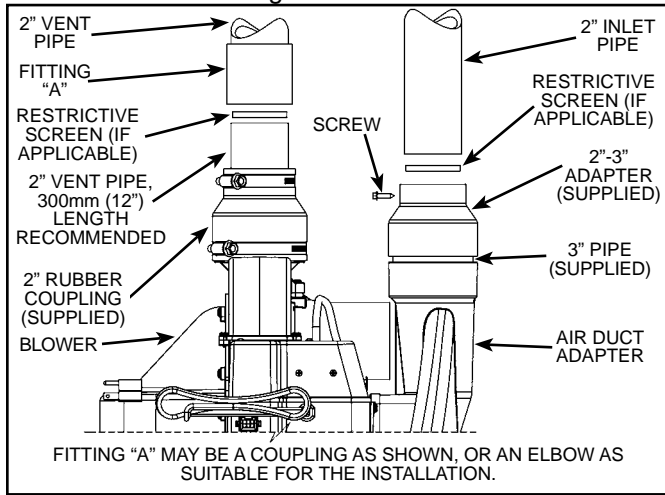
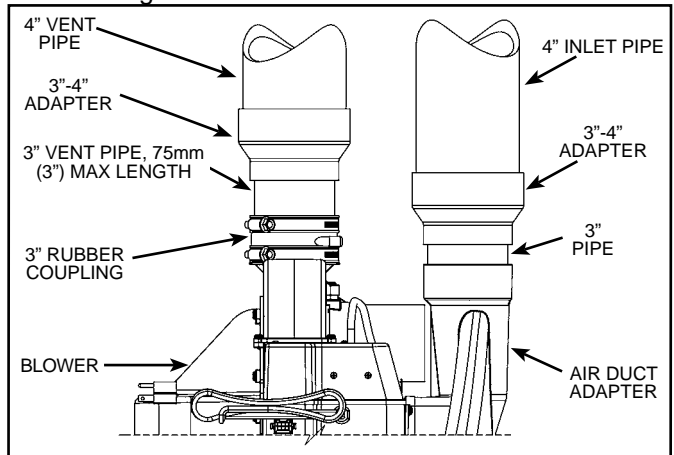

Figure 38.
Figure 41.
**Note:** If a vent screen in the air intake vent system is located at the blower, this joint should not be cemented but secured with a screw to allow servicing (see Figure 38 through Figure 41).
4. Make sure that the plastic tubing is still attached from the air pressure switch to the port on the blower motor housing. Make sure the plastic tubing is not folded anywhere between the pressure switch and the blower motor housing (see Figure 38 through Figure 41).
**Important:** These connections must be properly seated and tightened to prevent the leakage of flue gases into the area. See Figure 38 through Figure 41.
Figure 38 shows the configuration for heaters direct connected to 2" venting.
Figure 41 shows the configuration for heaters connected to 4" venting.
The restrictive screen (see Figure 37) and the air intake piping should be secured in place with a screw. To prevent damage to the equipment, first position the restrictive screen in place, then drill a pilot hole suitable for the screw being used. The screen must be fully seated and the screw should not interfere with the airflow through it. Once the pilot hole is drilled, place the intake pipe in position and secure in place using the screw (see Figure 38 through Figure 41). Do not use glue to secure this joint in order to allow the screen to be removed for cleaning. The screen in the exhaust piping should be located close to the blower and all exhaust piping joints should be glued.
If the installation requires restrictive screens (see Figure 37) the restrictive screens should be installed near the blower as shown in Figure 38 through Figure 41. If the restrictive screens are installed near the blower, it is recommended that debris screens (see Figure 37) be installed at the terminations.